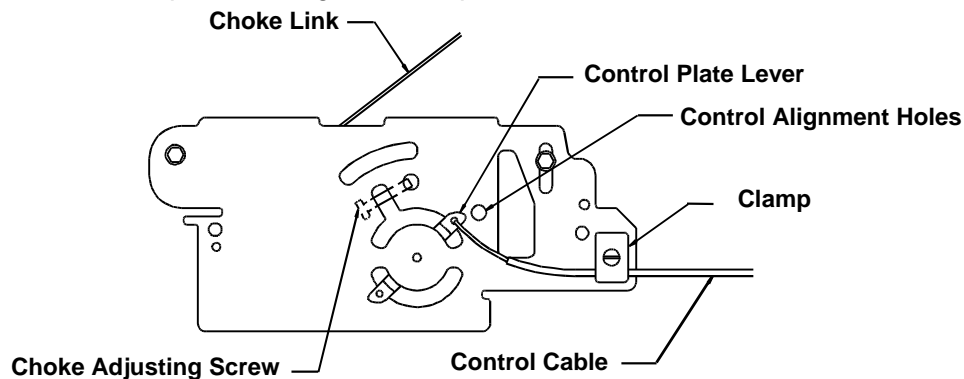

FIG 2
- b) Loosen clamp on engine control plate (See Figure 2). Attach inner wire of the throttle cable to the control plate lever and position cable under cable clamp, **do not** tighten clamp.